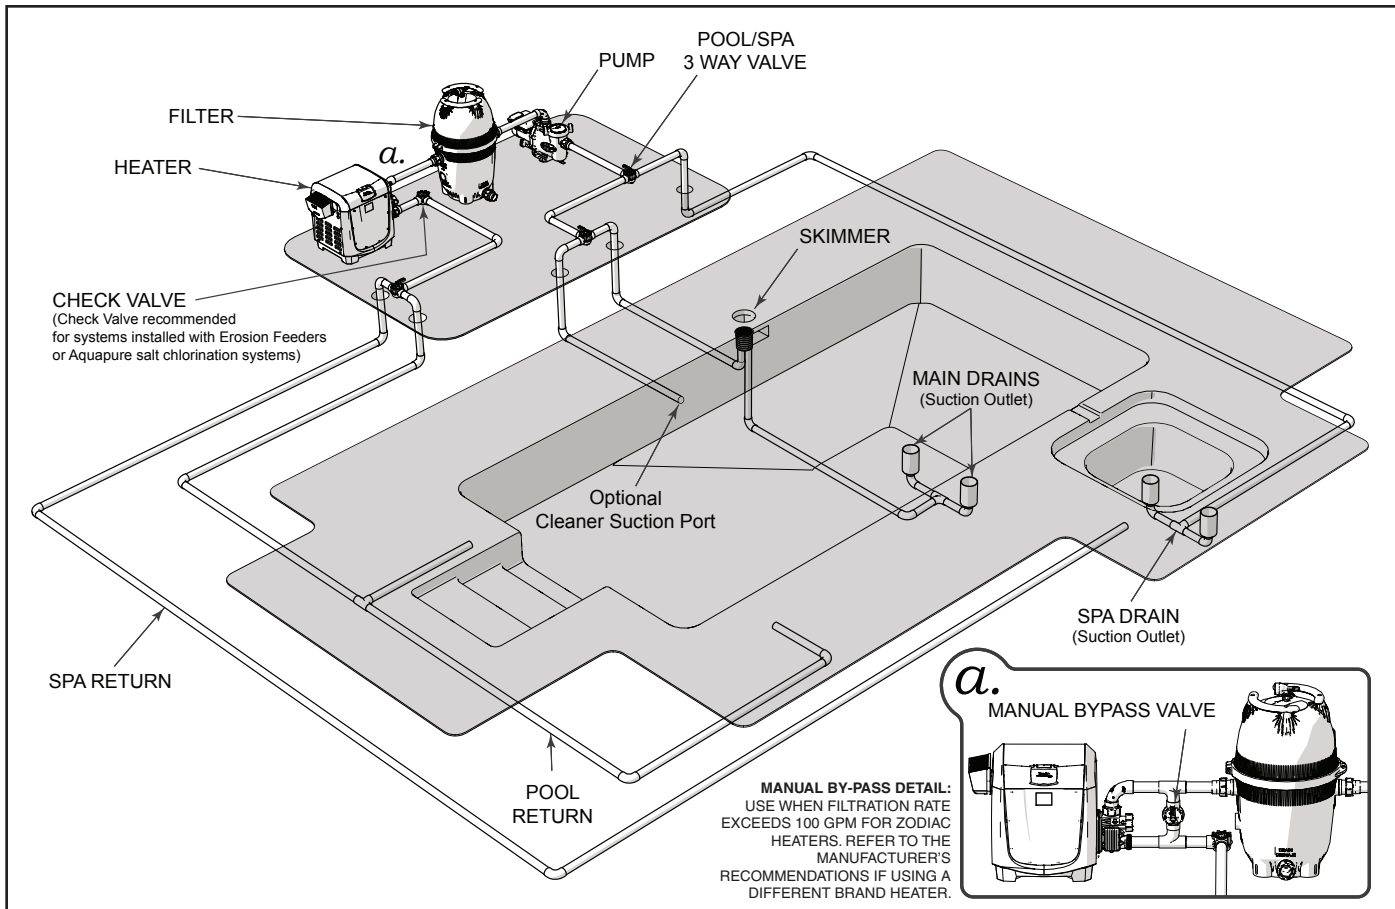

Figure 12. Typical Water Piping Configuration
Install pool system components with connections as illustrated in “Figure 12. Typical Water Piping Configuration” on page 16.
Any configuration other than as illustrated in “Figure 12. Typical Water Piping Configuration” on page 16 can affect the operation of the water pressure switch. Locating the heater above or below the pool water surface can also affect operation of the switch.
1. Connect ball valve between water inlet and outlet. See “a.” in “Figure 12. Typical Water Piping Configuration” on page 16